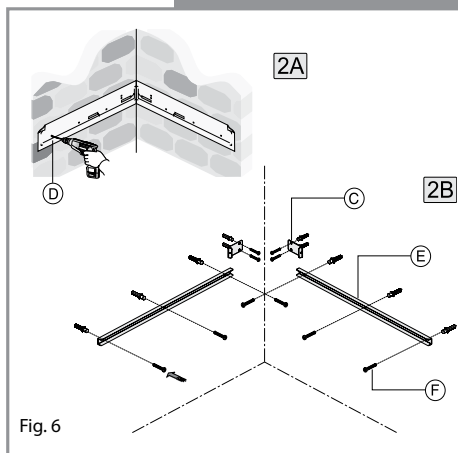

Fig. 6
1. Position the template (D) on the wall and mark the positions of the drill holes on the wall. Note that the bottom edge of the template should be the height required above the hob. (Fig 6 2A)
2. Drill holes suitable for the wall plugs you are using and fix the support rails (E) and brackets (C) to the wall using suitable screws (F). (Fig 6 2B)